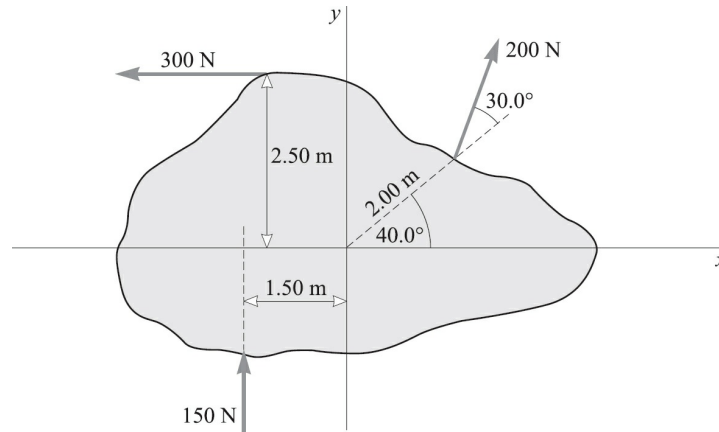

Fig. 5-25
5.36 [III] An object is subjected to the forces shown in Fig. 5-25. What single force F applied at a point on the x -axis will balance these forces leaving the object motionless? (First find its components, and then find the force.) Where on the x -axis should the force be